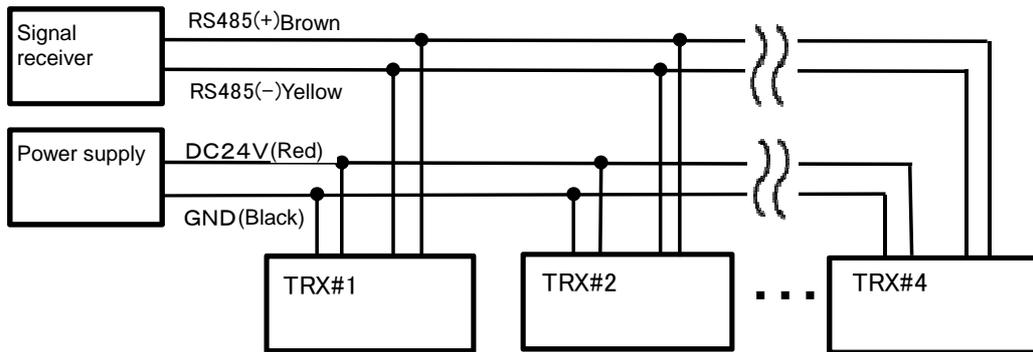

Fig. 4-4 Signal receiver and connections (RS485 output specification: R)
- If multiple meters are to be connected as shown in Fig. 4-4, choose a power supply with more than sufficient power supply capacity. A rough guideline would be 1.5W multiplied by the number of units connected.
- Activate the 100 ohm terminator resistor between communication lines only on the meter that is physically the farthest away from the signal receiver. In Fig. 4-4, (TRX#4) would be the applicable one.
- When connecting an external connection cable, use an equivalent of or one with a higher capacity than a six-core cable UL style 20276-5B AWGx6C (2).